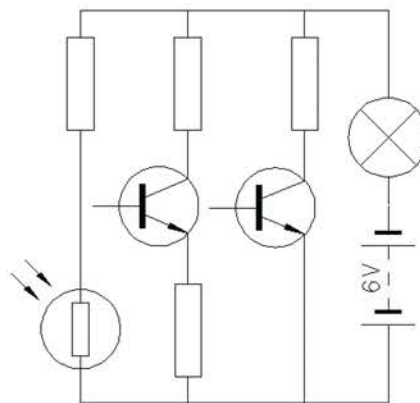

Fig. 13.18 Example using the DesignCenter
6. Complete the circuit drawing as shown in Fig. 13.18.
Fig. 13.18 does not represent an authentic electronics circuit.